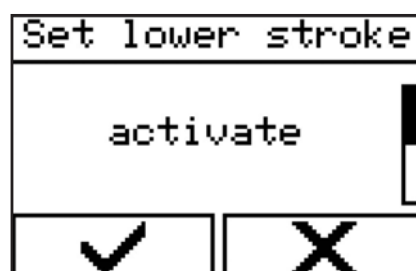

Figure 101 - Activating stroke limitation
2. Select 'Activate lower stroke limit' (Figure 101).